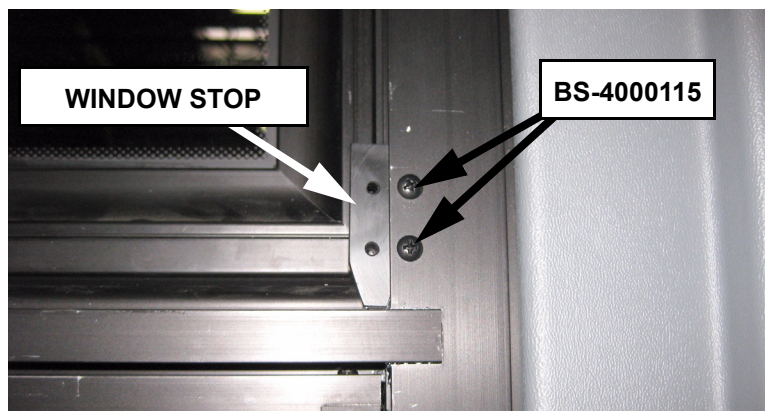

**Figure 1-14 Drill Fixture and Drill Locations**
19. Place the drill fixture into mounting position on mullion. Ensure drill fixture is fully seated against vertical frame. See Figure 1-14
20. Drill 11/64" holes using the top holes of drill fixture as guides. See Figure 1-14
If drill fixture is not available, use dimensions shown in Figure 1-14 for drill locations.
25. Place the drill fixture into mounting position on mullion. Ensure drill fixture is fully seated against vertical frame. See Figure 1-14
26. Drill 11/64" holes using the top holes of drill fixture as guides. See Figure 1-14